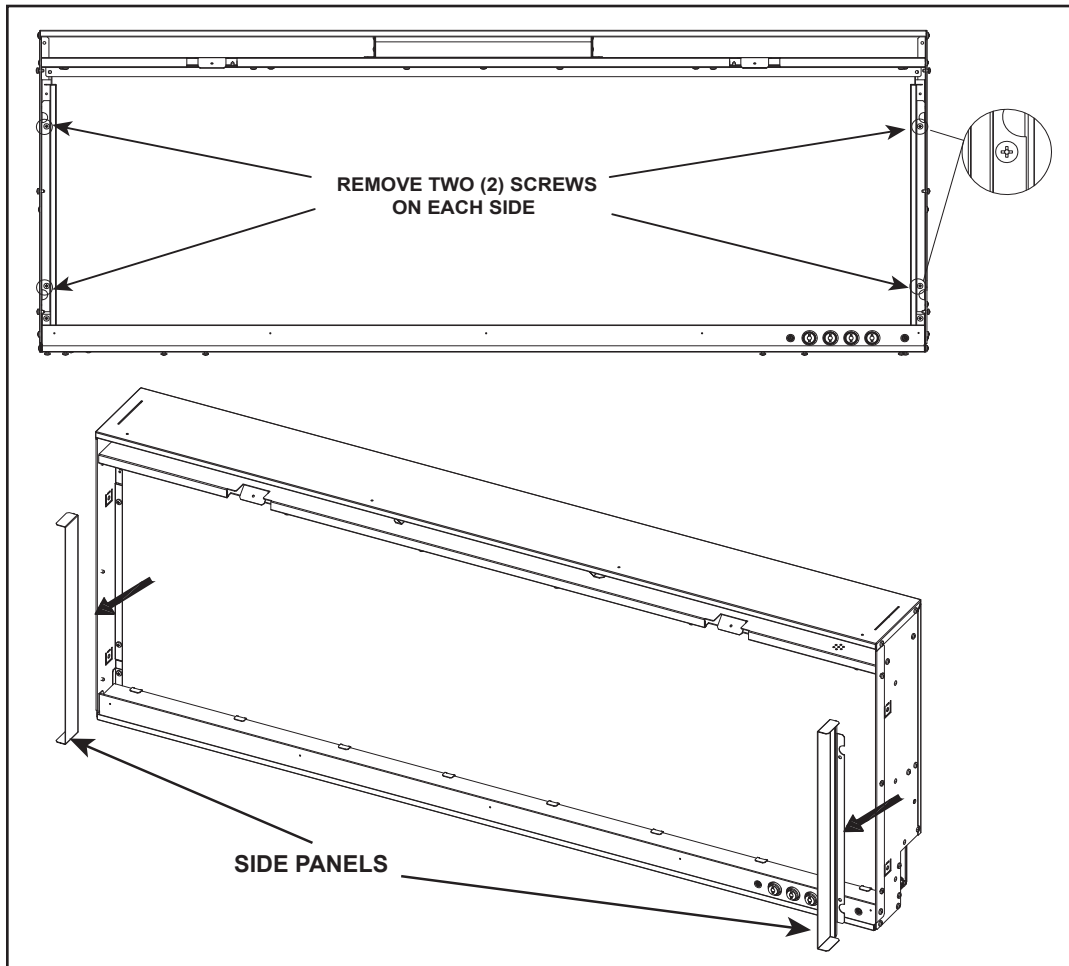

Figure 5 Remove two (2) Screws on Each Side and Remove Panels
4. Remove right and left side panels by removing two (2) screws from each side. Remove panels. See Figure 5.